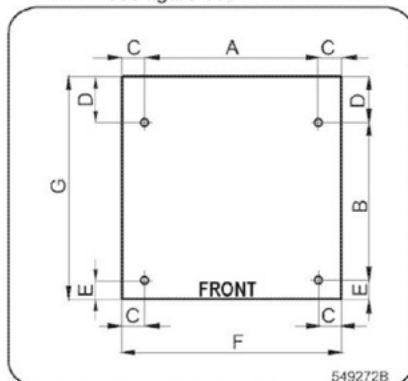

Figure 10 – Rigid-mount machines
- "○" – drilling points for anchoring bolts, or chemical anchor bolts, see figure 10.
- The existing concrete floor must be at least 120mm / 4.72" thick. Dimensions for anchoring – see figures 10 and table 22.